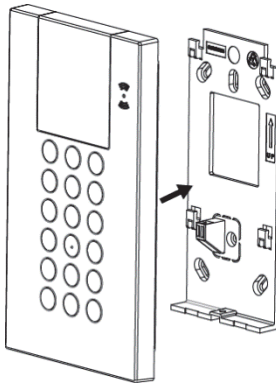

Figure 4
5. Mount the keypad to the mounting bracket (see Figure 4).